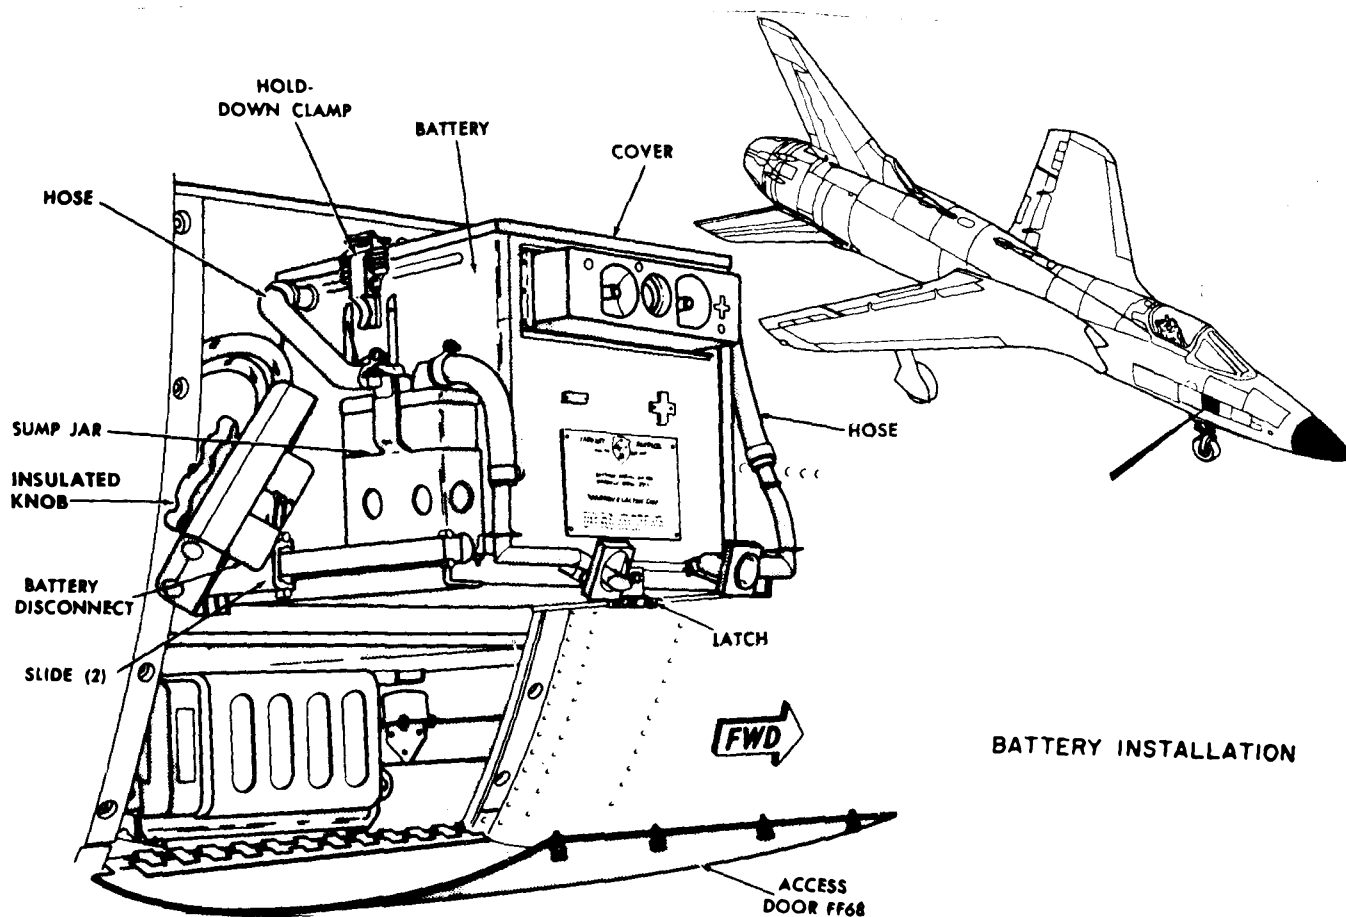

Figure 9-31. Battery System and Unit Location - F-105D/F Aircraft
a. Battery. The battery for the F-105D/F aircraft is on the right hand side below the front windshield under access door FF68. (see figure 9-31)